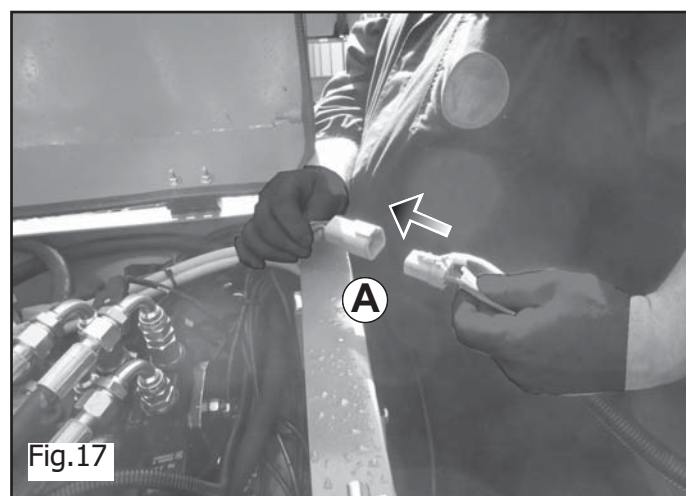
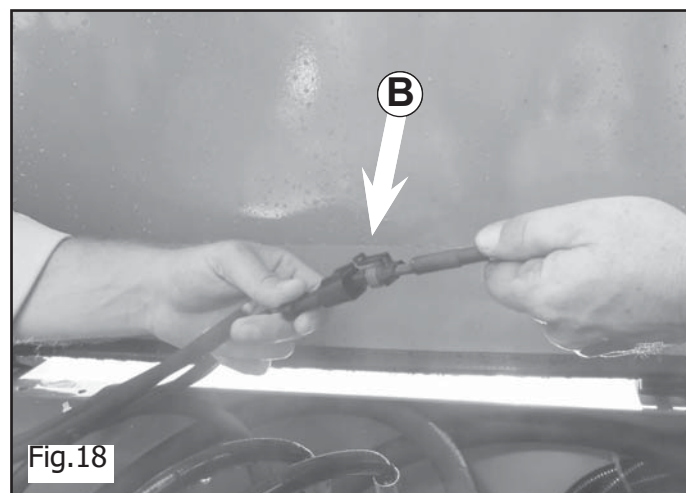

Fig.17
Fig.18
- 8) Combine the connections: -Electric installation (A Fig.17) Heat exchanger (B Fig.18)